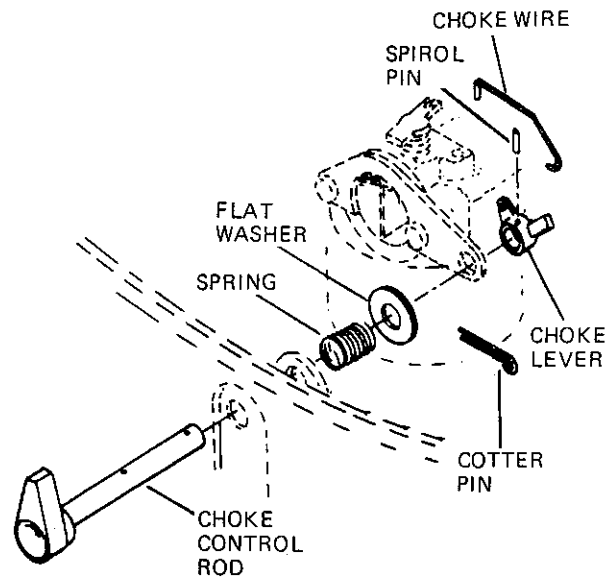

Figure 19
- (2) Refer to Figure 19 and disconnect the choke as follows: